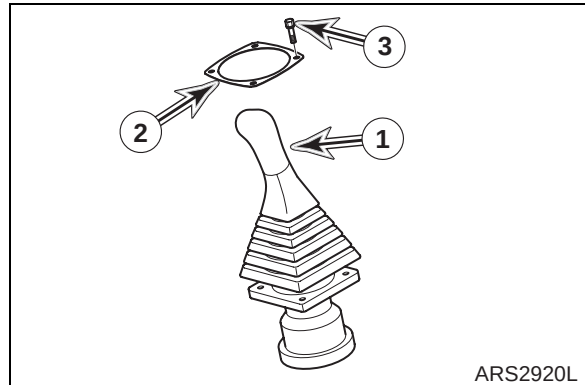

Figure 41
6. Connect hoses as tagged during removal to remote control valve LH (1, Figure 41).
7. Position remote control valve LH (1, Figure 41) on control stand and install four bolts and washers (3), and cover (2).